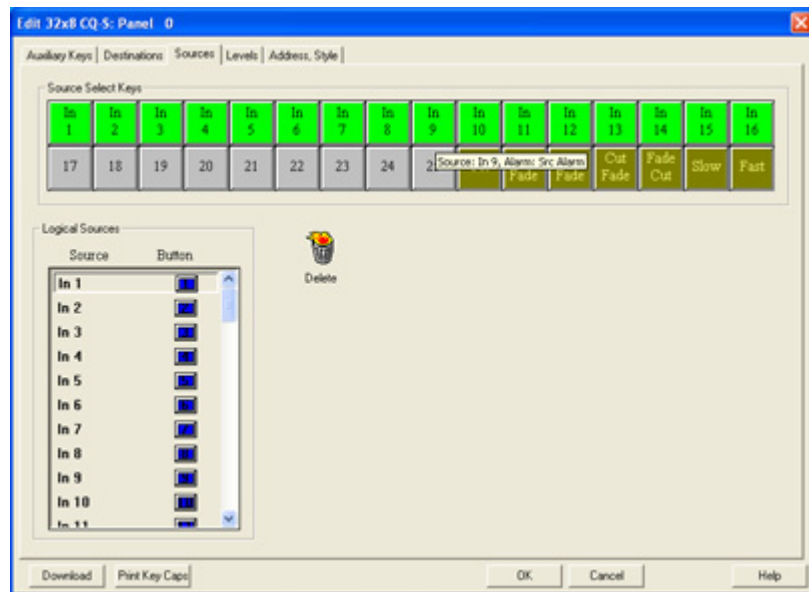

Figure 7 Sources Tab
2. Select the Sources tab. Verify that the Source tab displays push button key information as shown in **Figure 7**.